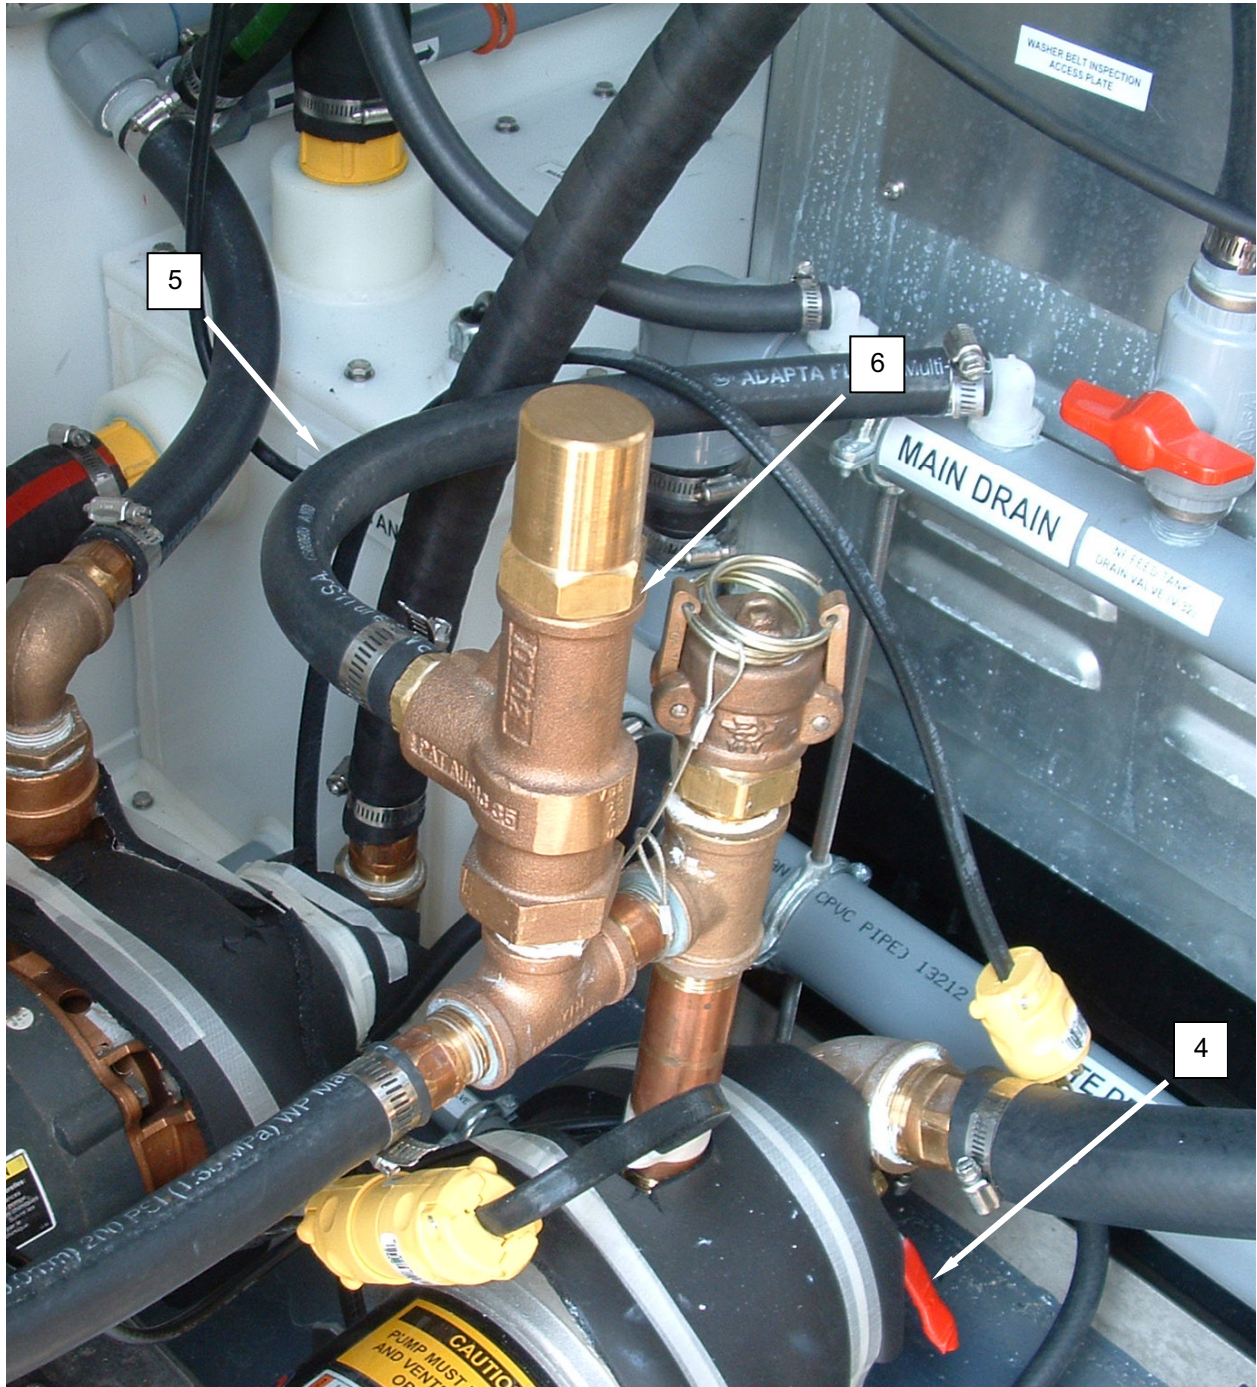

Figure 2. Replace the Pressure Relief Valve.
2. Relieve pressure from system, and open pump drain (**Figure 2, Item 4**).
3. Loosen hose clamp retaining the pressure relief valve hose (**Figure 2, Item 5**) to the pressure relief valve (**Figure 2, Item 6**).
4. Disconnect pressure relief valve hose (**Figure 2, Item 5**) from the pressure relief valve (**Figure 2, Item 6**).
5. Make a note of the position of the pressure relief valve (**Figure 2, Item 6**), use a pipe wrench to steady the attached pipe fittings, and remove the pressure relief valve.
6. Apply pipe sealer compound to the male threads of the replacement pressure relief valve (**Figure 2, Item 6**) or the attaching male pipe fittings or nipple.
7. Install the replacement pressure relief valve (**Figure 2, Item 6**), ensuring the replacement valve is both tight and correctly aligned.
8. Install pressure relief valve hose (**Figure 2, Item 5**) onto pressure relief valve (**Figure 2, Item 6**) and retain with hose clamp.
9. Close pump drain (**Figure 2, Item 4**).